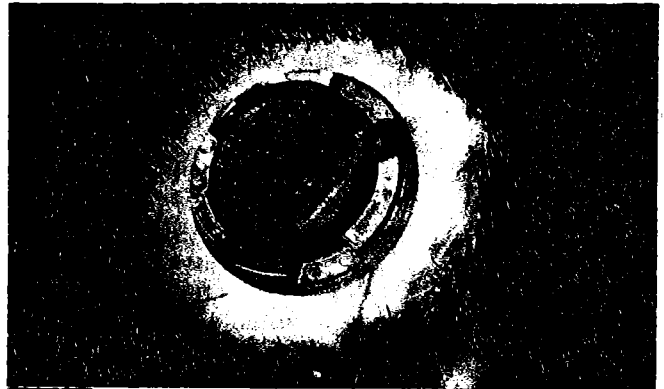

Figure 2
5. Align the lugs on the locking plate with the drive adapter openings. See figure 2.